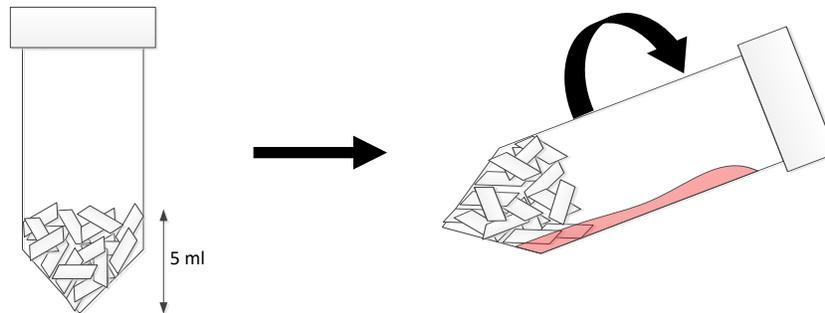

Figure 3: Avoid tilting tube beyond 90° angle to minimize risk of cell loss.
4. Tilt and rotate tube to provide gentle mixing (Figure 3).